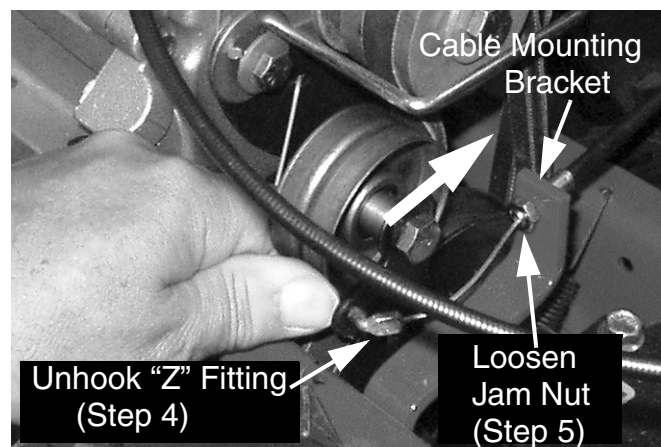

FIGURE 2
4. While manually pushing the forward drive idler pulley towards the forward drive clutch cable's mounting bracket, unhook the cable's "Z" fitting from the forward drive idler bracket. See Figure 2.
5. Using a 7/16" open end wrench loosen the hex jam nut securing the forward drive clutch cable to the cable mounting bracket. See Figure 2.